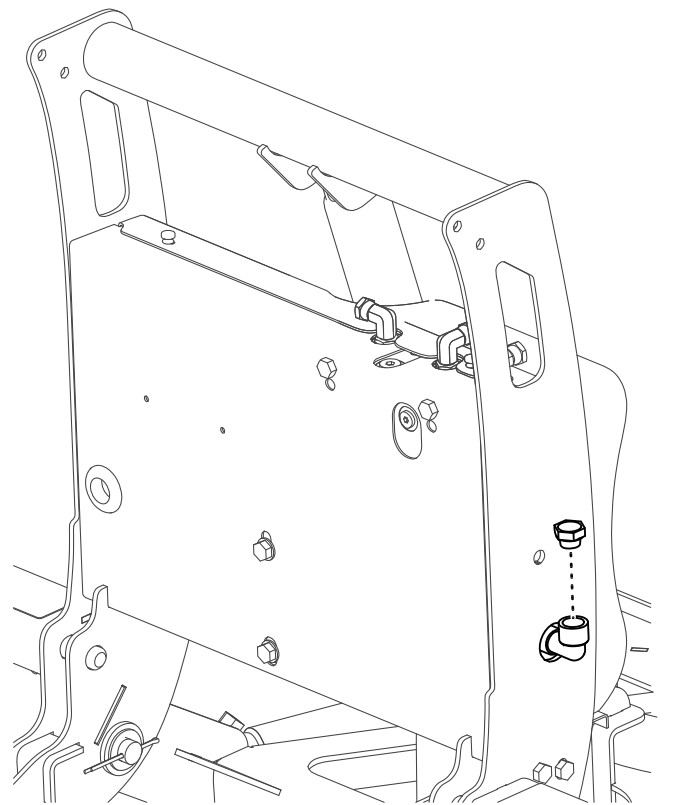

Figure 9
3. Remove the fill cap from the hydraulic reservoir elbow (Figure 9).